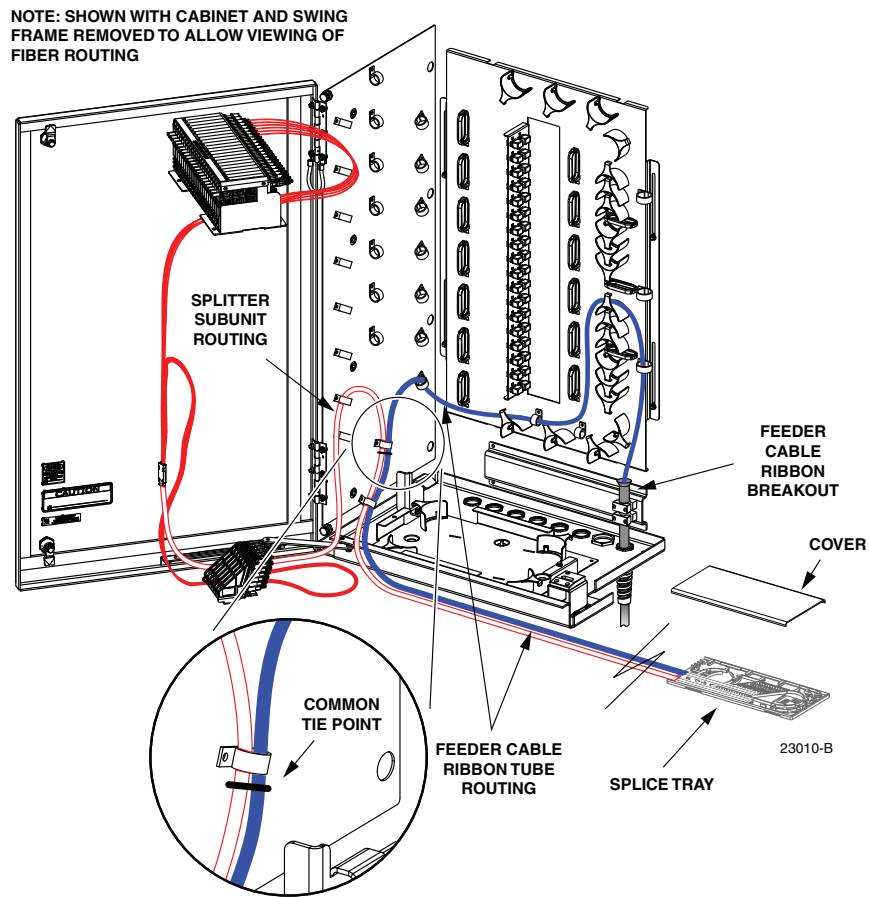

Figure 39. Feeder Fiber Routing to Splice Tray - Ribbon Cable
- Beginning at the feeder cable ribbon breakout point shown in Figure 39, route the protective tube or ribbon subunit to the intersect point with the splitter fibers.